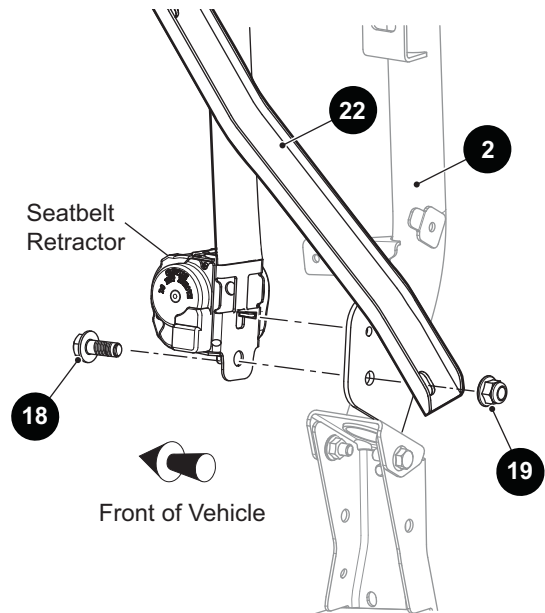
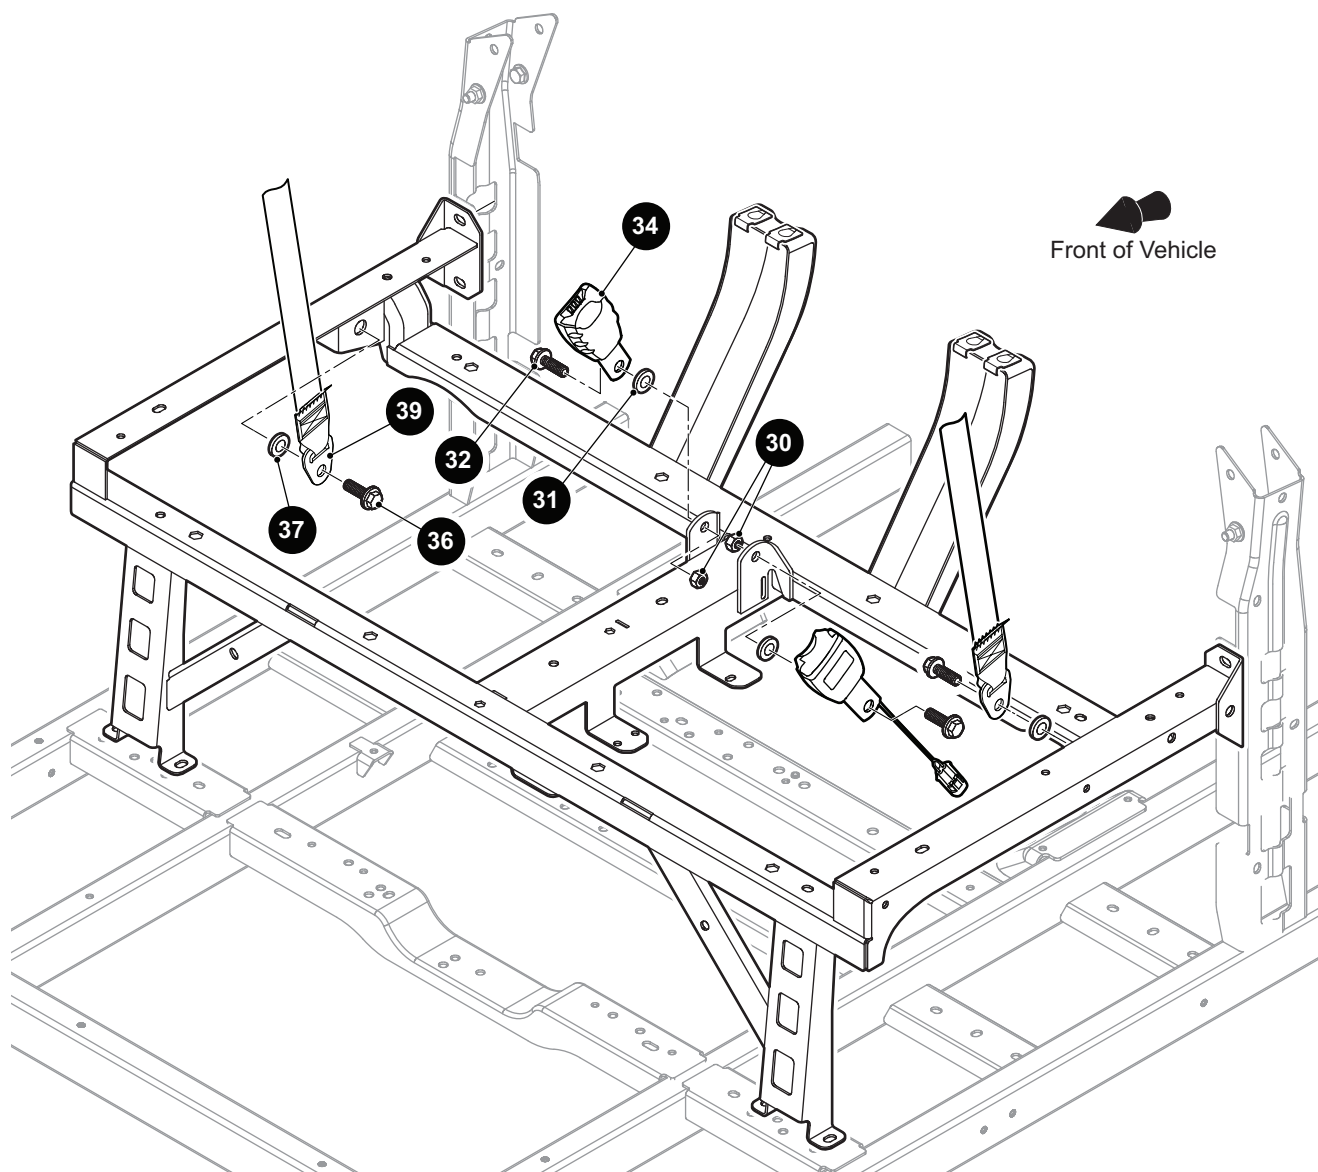

Fig. 9 Seat Belt Retractor
Fig. 10 Lower Seat Belt
- Secure the top of supports (22) to brackets on cross bar (21) with bolts (25) and nuts (27). Finger tighten bolts to allow for adjustment. Do not secure bottom of support until the seat belt retractor is installed (Ref. Fig. 9).
2. Align mounting hole of support (22) with the hole in the ROPS tube (2). Attach the seatbelt retractor to the bracket at the bottom of the ROPS tube (2) (Ref. Fig. 9).
4. Secure the seatbelt retractor to the bracket by inserting the bolt (18) through the mounting hole in the retractor and through the ROPS tube (2) and support (22). Secure the bolt with lock nut (19).
5. Secure the seat belt anchors (39) to the seat frame with bolts (36), washers (37) and nuts (38) (Ref. Fig. 10).
6. Secure the seat belt latches (34) to the center of the seat frame with bolts (32) and nuts (30).